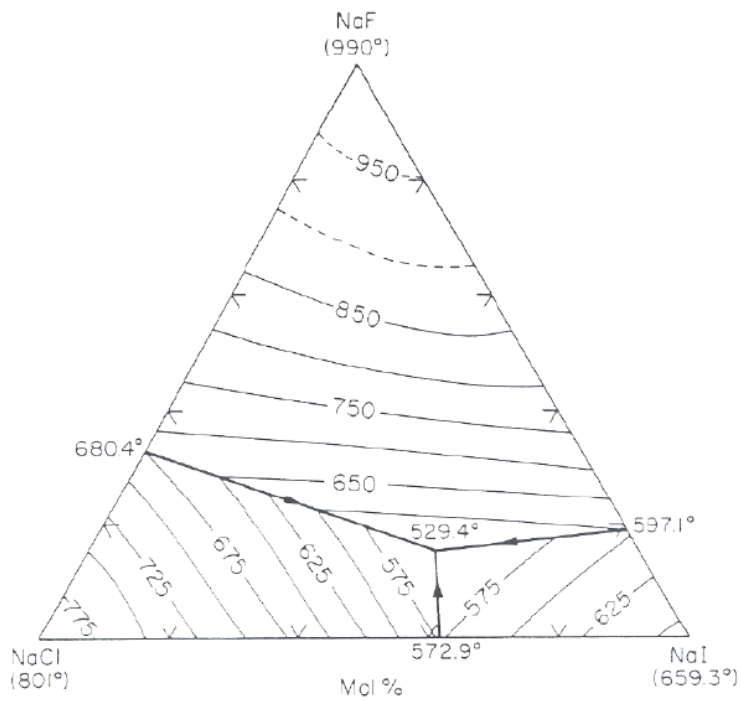

Figure 1.5: NaF-NaCl-NaI phase diagram. From ref. [?].
- 7) Calculate and plot the liquidus projection of the ternary phase diagram for the NaF-NaCl-NaI system. The melting temperatures and heats of fusion are as follows: NaF (990°C, 29,300 J/mol), NaCl (801°C, 30,200 J/mol) and NaI (659.3°C, 22,300 J/mol). Assume an ideal liquid solution and negligible solid solubility. Compare your result with the experimental diagram shown in Figure 1.5. Why might they be different?